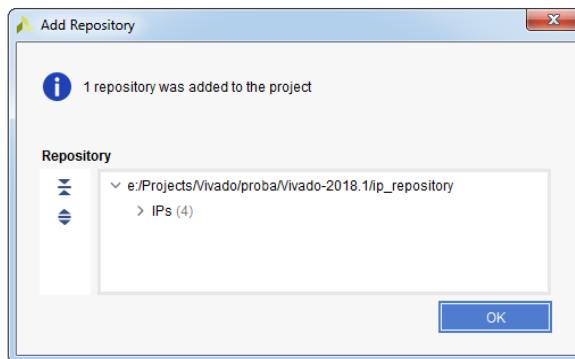

Figure 12.26: Add Repository dialog box
36. In the **Add Repository** dialog box, click **OK** to add the selected repository (*ip_repository* with 4 IPs) to the project, see Figure 12.26.